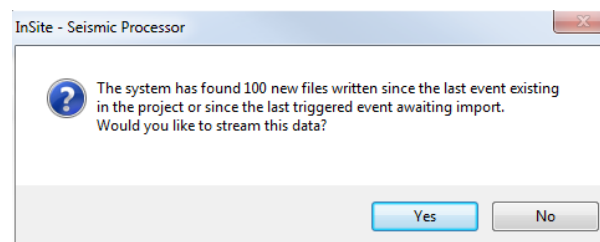

Figure 13-18: Dialog launched after search for new files to leach is complete. Pressing 'Yes' begins the triggering process.
15. Press 'Start Leaching Data' to begin data triggering. This will initialise a search for files to be triggered; only files that have been recorded for a later time (time stamp as read for each different file type) than the most recent event already existing in the project (PCF) will be available for leaching. When the file search is complete, a window will pop up (Figure 13-18) giving the number of new files available to leach; pressing 'Yes' on this Dialog will commence triggering of the available files. This Dialog will not launch if the SEG Y settings 'Prompt before streaming new data' option is unchecked.